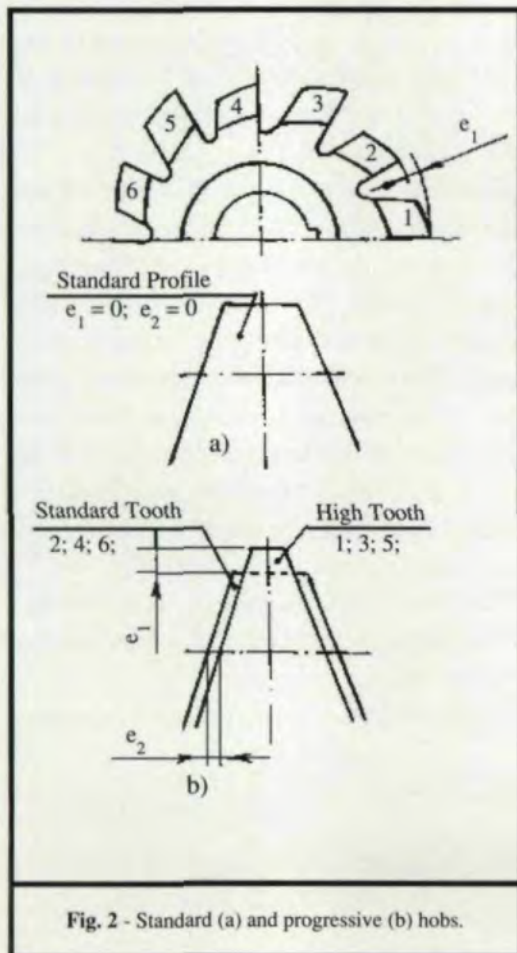
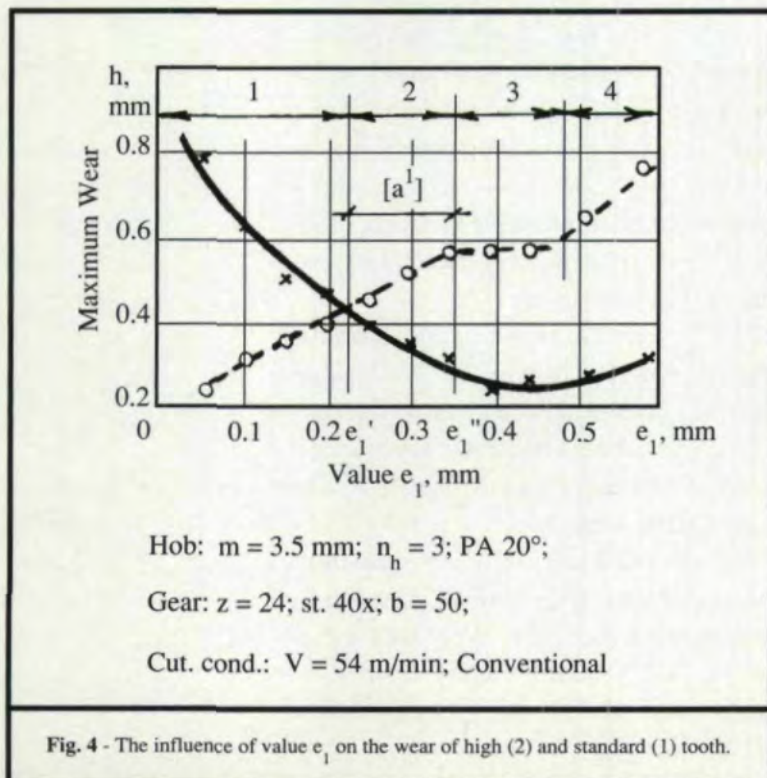
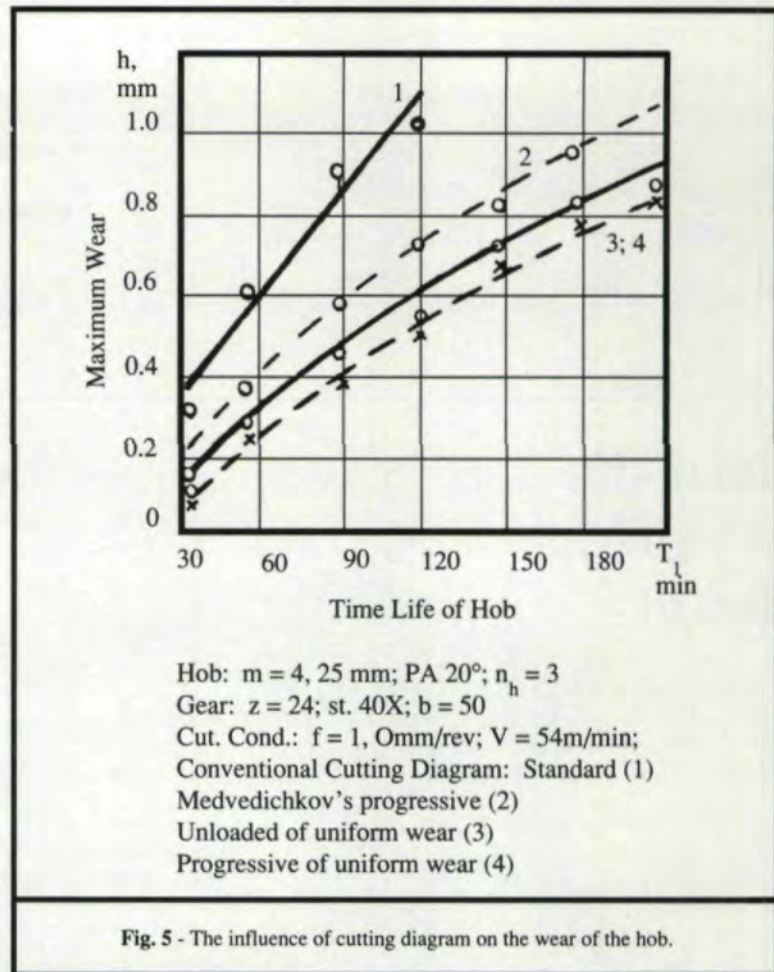

Fig. 2 - Standard (a) and progressive (b) hobs.
Fig. 4 - The influence of value  $e_1$  on the wear of high (2) and standard (1) tooth.
Fig. 5 - The influence of cutting diagram on the wear of the hob.
shaped layers into elementary ones; that is, it is possible to divide complex cut layers into elementary ones by means of cutting diagrams introduced by Prof. S.N. Medvedichkov. Medvedichkov has found that in order to avoid the interference of the chips gathering from the top and both sides, the tooth profiles must be modified as shown in Fig. 2 (b). Hobs with this diagram are called "progressive". One profile is standard (low tooth-2, 4, 6, . . .), and another is higher by a value of  $e_1$  and is reduced in tooth thickness (is narrower by  $e_2$ ).
"unloaded of uniform wear," and the hobs of the Medvedichkov diagram (Fig. 2.b) with values  $e_1$  and  $e_2$  determined by Eq. (4) were called "progressive of uniform wear." Fig. 4 shows the influence of value  $e_1$  on the wear of such hobs. This function can be divided into four zones. In the first zone the value of  $e_1$  is very small and the standard "low" tooth, engaged in non-free cutting condition, has limited wear (Fig. 4, line 1). When  $e_1 = e'_1$ , the wear of "high" and "low" teeth becomes equal. The "low" tooth cut "V"-shaped and "W"-shaped layers until  $e_1 < e'_1$  (Zones 1 and 2). It is clear from Fig. 4 that value  $[a_1]$  in Eq. 3 is  $[a_1] = e'_1 - e_1$ . In Zone 3 "low" teeth cut elementary layers, and the wear of the "high" tooth is 2-3 times higher than the wear of the "low" tooth; however, the total wear of such hobs is 2-3 times less than that of a standard hob (Fig. 5). Further increasing of  $e_1$  led to unfortunate results: the wear of the high tooth increased (Fig. 4, Zone 4). Such increasing of wear depends on deterioration of the cutting condition; the high tooth in such a case (rather like needle) engaged in cutting "V" shaped layers.
Fig. 5 shows the influence of cutting diagrams on the wear of hobs. Tests showed that the best wear resistance was obtained by use of hobs with progressive and "unloaded" cutting diagrams with uniform wear. (See Fig. 5.) Their wear resistance is 2-3 times higher than that of conventional hobs.